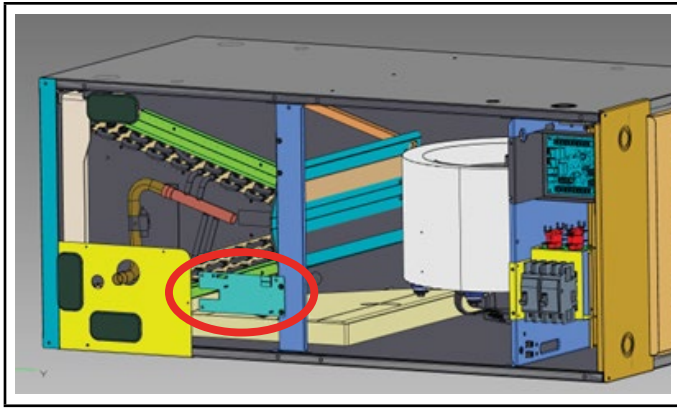

FIGURE 8
- 3 - With air handler unit panels removed, install sensor bracket assembly to the unit by lining up holes in the center support bracket as shown in figure 8. Note: sensor should be facing toward the inside of the unit.